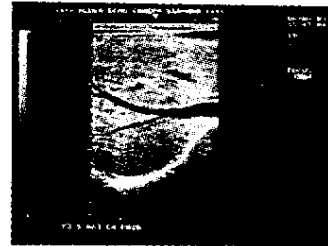

Fig. 9-13
b. Mottles (brown with Type 667) all over Print (Fig. 9-13)